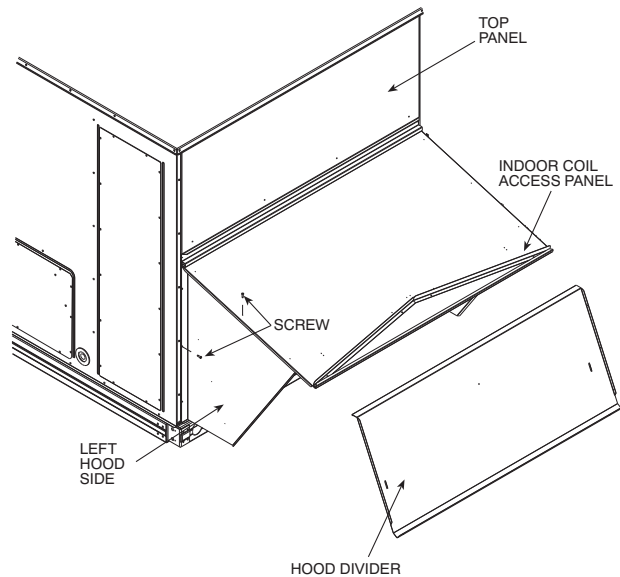

Fig. 14 — Economizer Hood Construction
- Swing out indoor coil access panel and insert the hood sides under the panel (hood top). Be careful not to lift the panel too far as it might fall out. Use the screws provided to attach the hood sides to the hood top. Use screws provided to attach the hood sides to the unit. See Fig. 14.
- Install the two rain deflectors on the edge of the hood top as shown in Fig. 14.